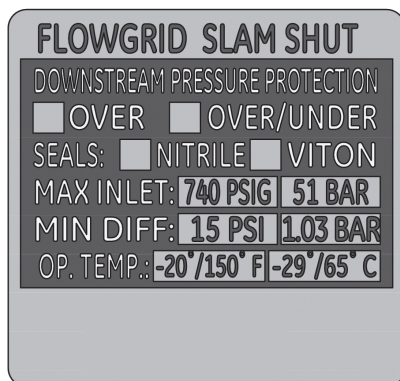

Figure 2 – Flowgrid Slam Shut Nameplate
3. Connect a pressurized bottle into the Slam Shut Sense Port and apply the desired Set Point pressure. (See Figure 2).